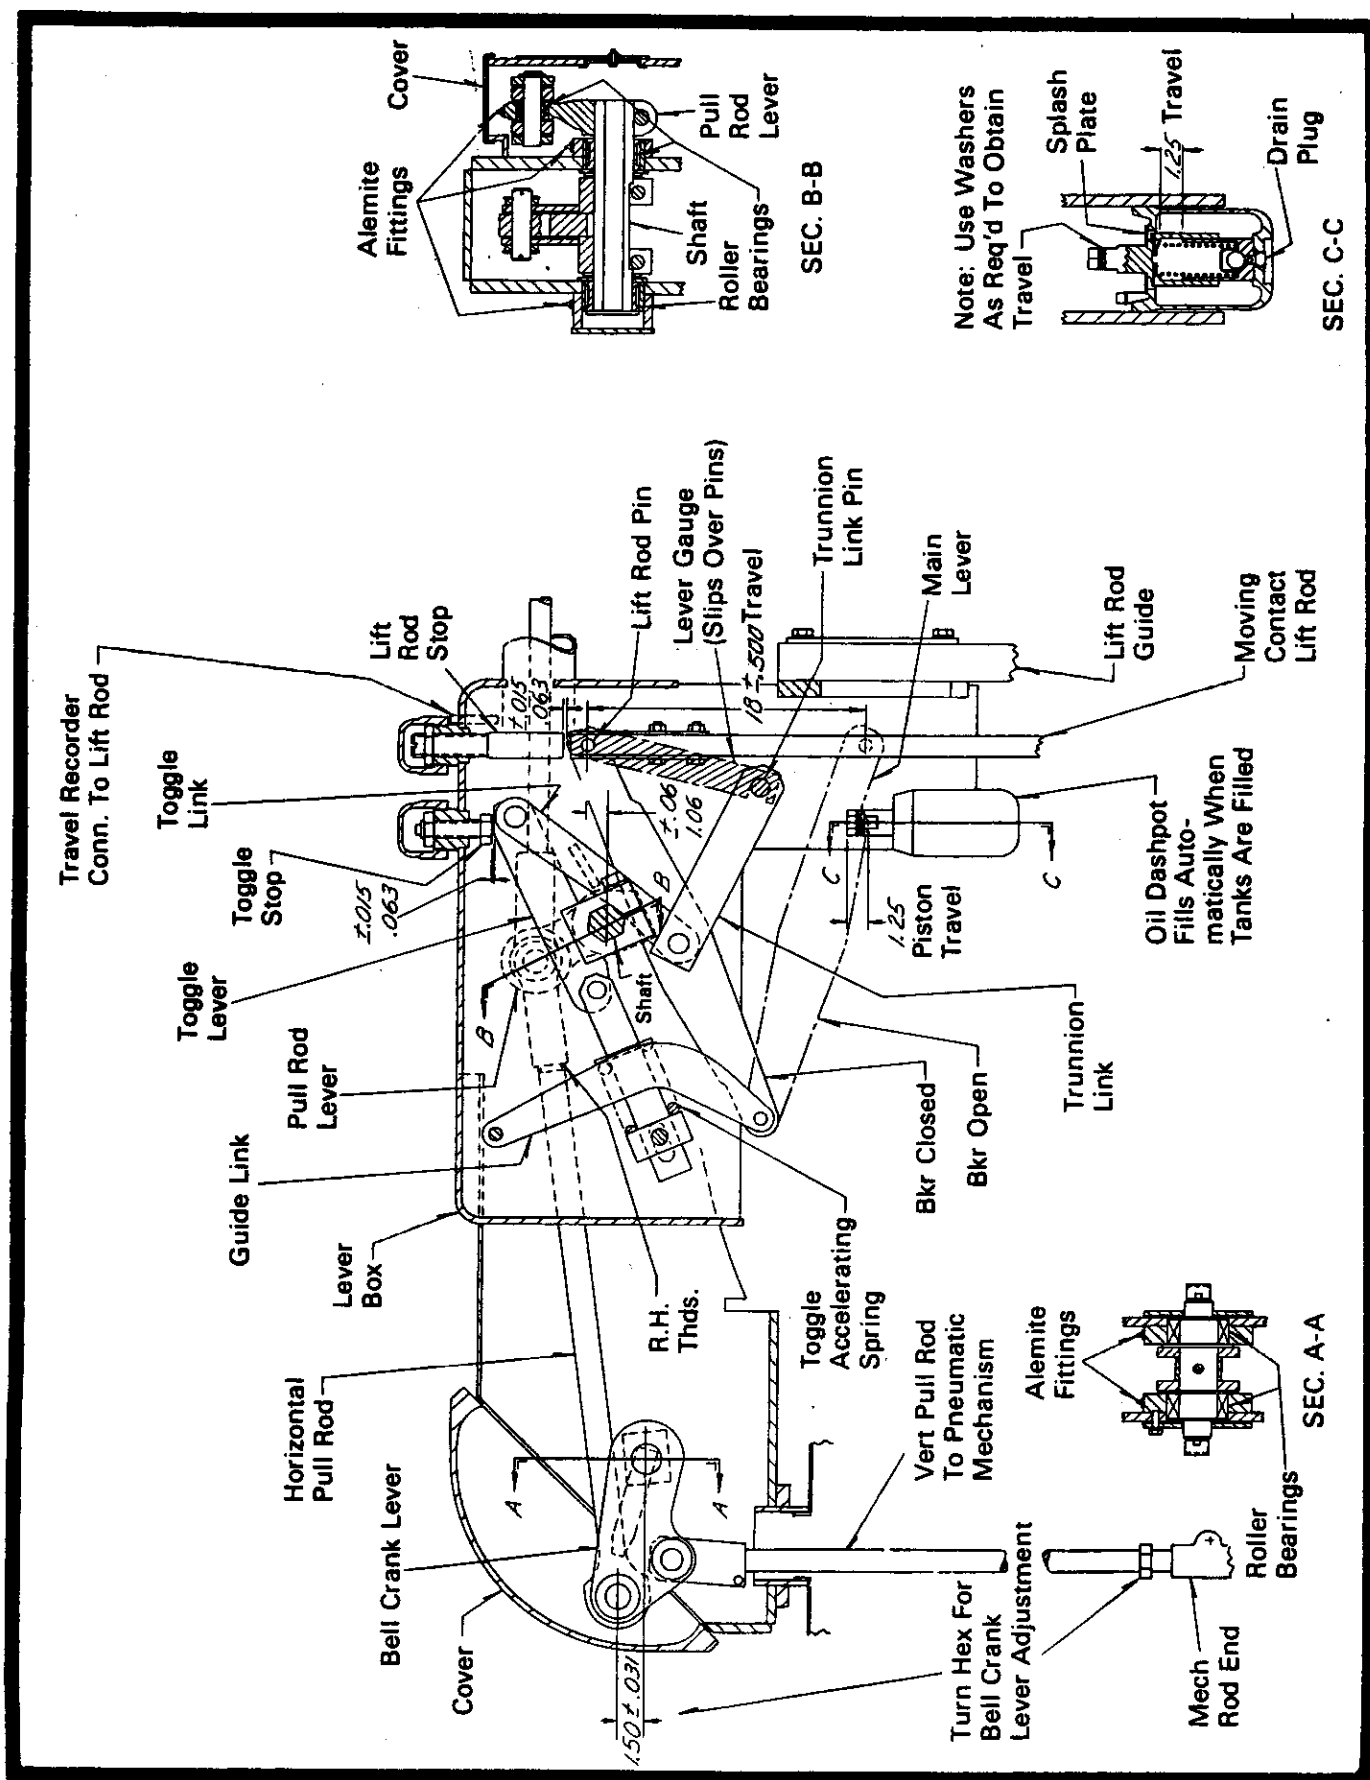

FIG. 4 - Bell Crank and Lever Assembly
With the operating mechanism closed and just latched (no over-travel), referring to Fig. 4 the dimension of the center of the pin through the horizontal pull rod above the centerline of the shaft should be $1.5" \pm .031"$. If this is incorrect, adjustment may be made (with the breaker in the open position) on the vertical pull rod by loosening the clamping bolts on the rod ends and turning the rod. Since this rod has L.H. threads on the upper end and R.H. threads on the lower end, turning it into the lower rod end will shorten the rod, while backing it out of the lower rod end will lengthen it. A hex section near the lower end of the rod inside the mechanism cabinet is provided for a wrench.
Lift rod and toggle stops have been set at the factory to properly position the lever system. With these stops properly set, the clearances between the lift rod and its stop and toggle lever and its stop have been set at $.063" \pm .015"$ measured with the breaker closed and just latched (no overtravel). The settings were made with normal accelerating spring load and contact loading, and the lever checking gauge in place between the main lever and trunnion link pins. (See Fig. 4 for location of the lever checking gauge.) These clearances may be checked by removing pipe plugs on the side of lever box. Close manually to check stops (just latched - no overtravel) and insert a feeler gage through pipe plug holes in side of lever box.
If the stop clearances are incorrect, the stop bolts should *not* be disturbed in order to get the $.062" \pm .015"$ clearance. The position of each pole unit lever system should first be checked using the lever checking gage (see figure 4). If it fits into position properly the stop bolts may be adjusted to obtain proper clearance. If the lever checking gage does not fit into position, the correct procedure to obtain proper fit is to adjust the pull rod lengths between poles. If the fit of the lever checking gage on all three poles is off same amount, the horizontal pull rod from the bell crank to No. 1 pole only need be adjusted.
4. Check pull rod lever toggle in each pole by slipping lever gauge over trunnion link pin and lift rod pin. See Fig. 4.
5. Open the breaker slowly by hand and check to see that the oil dashpots in each pole unit touch within .090". The oil dashpots may be adjusted if necessary by adding or removing washers under the bolt head on the bumper rod as shown on Fig. 4. Adjust for the total travel of 18" within a $\pm .500"$ tolerance as shown on Fig. 4. Note that the dashpots are interacting between poles, thus it may be necessary to adjust for plus tolerance in another pole.